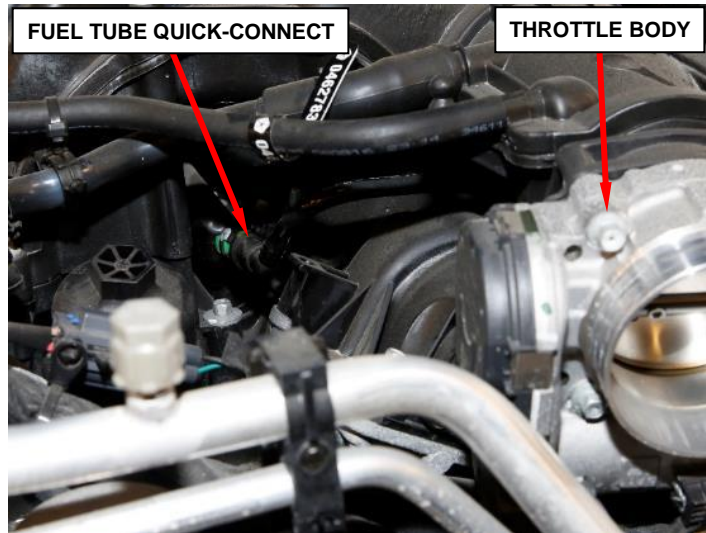

Figure 6 – 3.6L Fuel Tube Quick-Connect
9. Place a rag or towel below the fuel tube quick-connect fitting at the fuel rail (Figure 6 or 7).
10. Disconnect the fuel supply tube quick-connect fitting from the fuel inlet tube at the fuel rail (Figure 6 or 7).